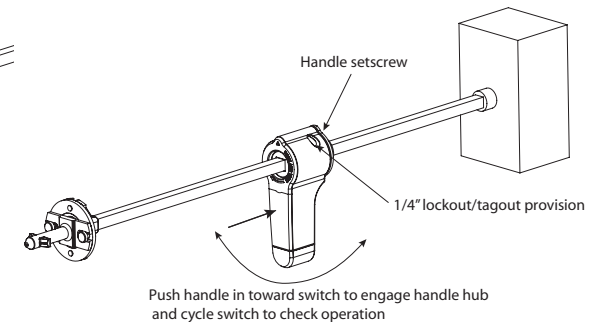

Fig. 3 Tighten handle setscrew, test switch cycling with and without 1/4" lock in the lockout/tagout provision.
- Step 5** — Check the NFPA 79 compliant handle's operation by pushing it down, towards the switch until it engages with it's hub and can be turned to cycle the switch ON and OFF without interference. Reposition handle if necessary. See Fig 3.
- Step 5a** — Install a 1/4" lock into the NFPA 79 compliant handle's lockout/tagout provision and inspect the installation for interference with other components inside the enclosure. Reposition handle if necessary. See Fig 3.